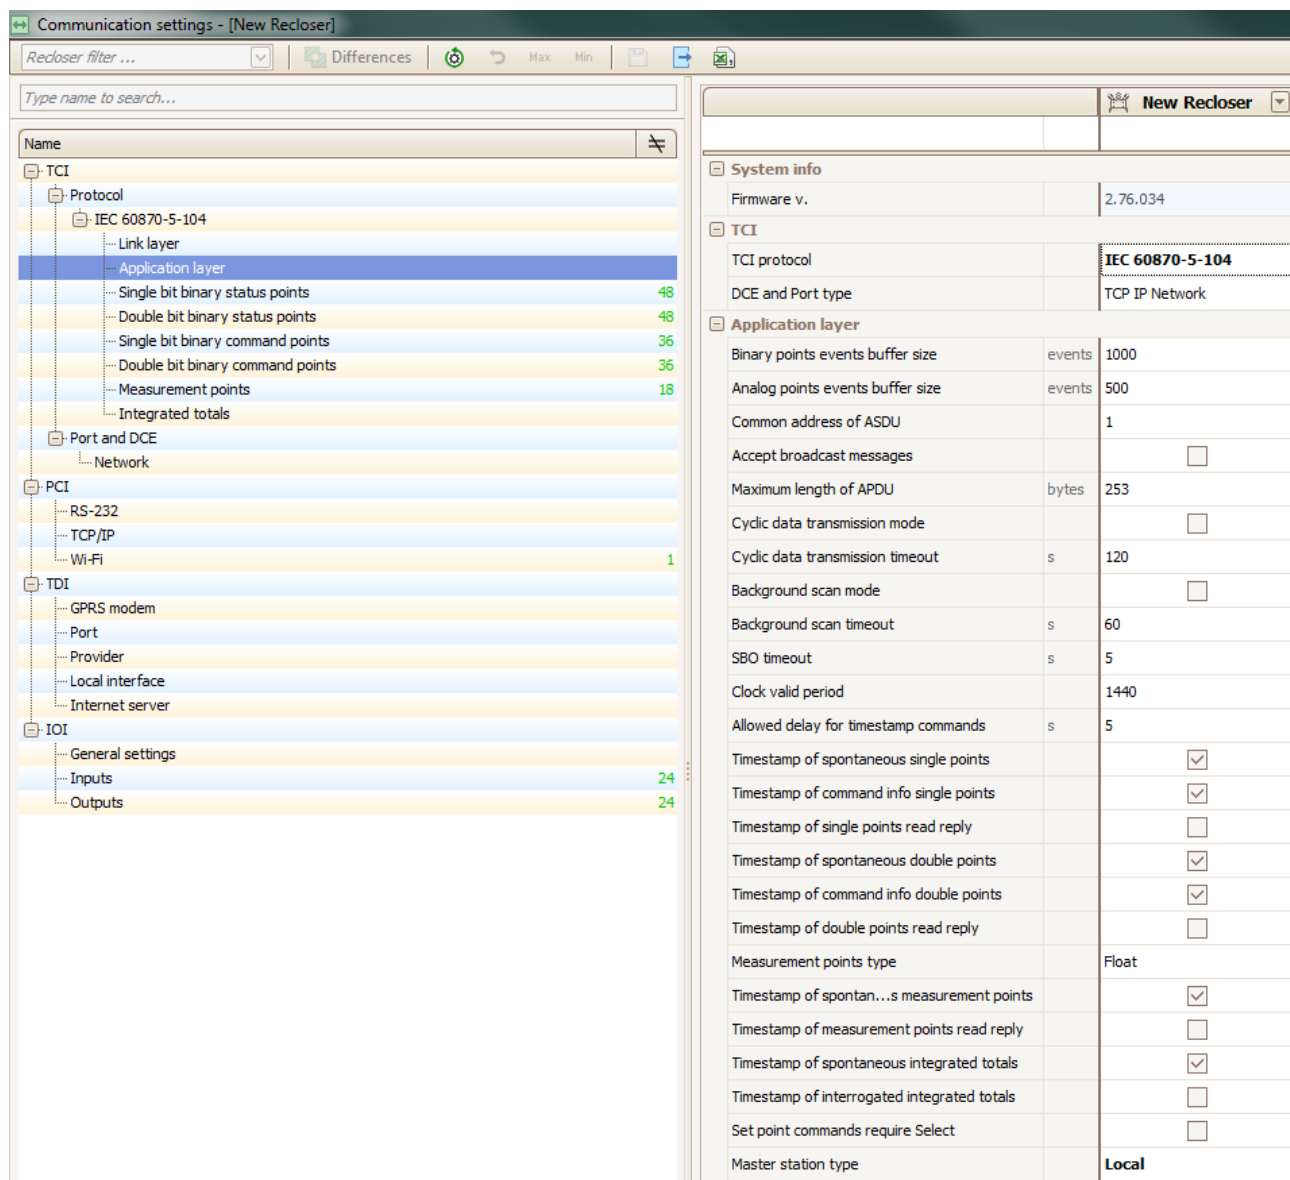

Figure 73
- 3) "Communication settings" window will popup where it is possible to edit protocols and interfaces settings (Figure 73).